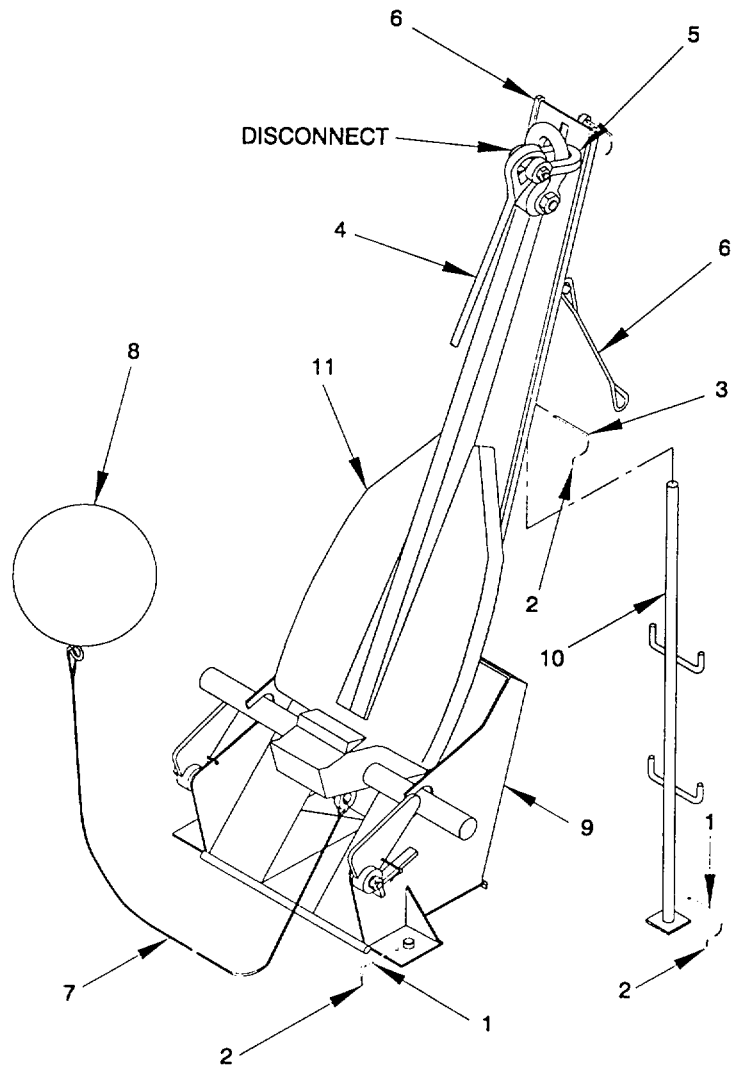
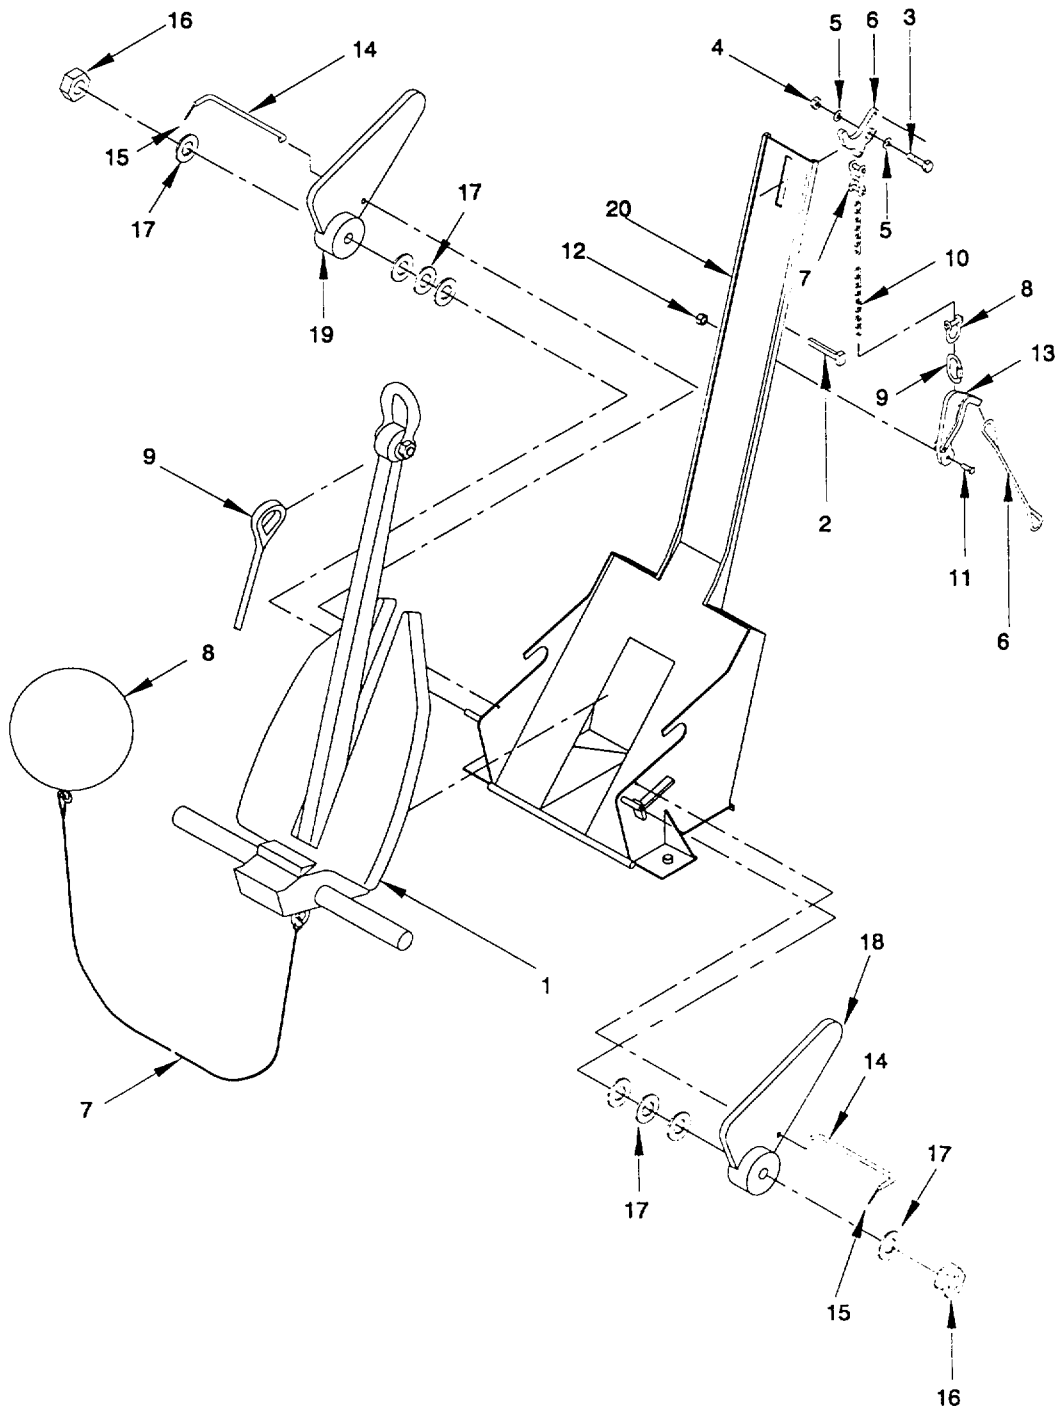

Figure 2-182. Anchorboard Assembly, Remove/Install.
Figure 2-183. Anchorboard Assembly. Repair.
a. Remove. (figure 2-182)
- (1) Secure anchor to anchorboard weldment, support anchorboard assembly (4) and provide suitable lifting devices for removal of anchorboard assembly (4)
- (2) Remove three locking pins (1) with sash chains (2) and toggle pin (3) with sash chain (2) securing anchorboard assembly (9) and support weldment (10).
- (3) Remove anchor rope (4) from shackle (5) and anchor (11).
- (4) Remove trip hook rope (6), buoy rope (7) and buoy (8).
- (5) Using lifting devices, remove anchorboard assembly (9) and support weldment (10).
b. Repair. (figure 2-183)
- (1) Remove anchor (1) from anchorboard weldment (20).
- (2) Remove tie wrap (2) from leg and the release arm.
- (3) Remove hex head capscrew (3), self locking hex nut (4), and two flat washers (5) from the trip hook (6). Remove trip hook (6).
- (4) Remove twin link clevis (7) securing coil chain (10) to trip hook (6).
- (5) Remove shackle (8) and master link (9) securing coil chain (10) to release hook (13).
- (6) Remove hex head capscrew (11) and self locking hex nut (12) securing release hook (13) to anchorboard weldment (20). Remove release hook (13).
- (7) Remove two toggle pins (14) with sash chains (15) from RH and LH ramp extensions (18 and 19).
- (10) Inspect toggle pins (14) for damage. Replace as necessary.
- (11) Inspect anchor wire rope (9) for kinks, parted strands or other damage. Replace as necessary.
- (12) Inspect buoy rope (7) and trip hook rope (6) for parted strands or damage. Replace as necessary.
- (13) Position RH and LH ramp extensions (18 and 19) on anchorboard weldment (20). Secure with two hex nuts (16) and four flat washers (17).
- (14) Install two toggle pins (14) with sash chains (15) in RH and LH ramp extensions (18 and 19).
- (15) Position release hook (13) on anchorboard weldment (20) and secure with hex head capscrew (11) and self locking hex nut (12).
- (16) Secure coil chain (10) to release hook (13) with shackle (8) and master link (9).
- (17) Position trip hook (6) on anchorboard weldment (20) and secure with hex head capscrew (3), two flat washers (5) and self locking hex nut (4).
- (18) Secure coil chain (10) to trip hook (6) with twin link clevis (7).
- (19) Install tie wrap (2) around leg and the release arm.
- c. *Install.* (figure 2-182)
- (1) Position anchorboard assembly (9) and support weldment (10) and secure with three locking pins (1) with sash chains (2) and toggle pin (3) with sash chain (2).
- (2) Position anchor (11) on anchorboard weldment (6), ensuring anchor (11) is secured by RH and LH ramp extensions and trip hook.
- (3) Install buoy (8), buoy rope (7) and trip hook rope (6).
- (4) Secure anchor rope (4) to anchor (11) with shackle (5).